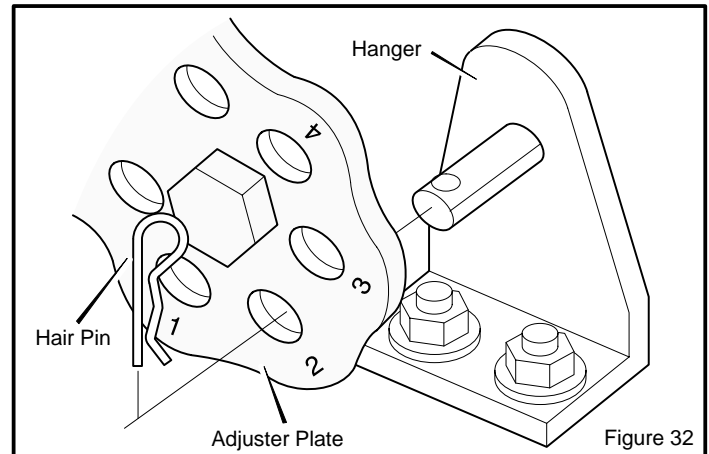

Figure 32
1. Disconnect one or both **adjuster plates** from the **hangers** (Figure 32).